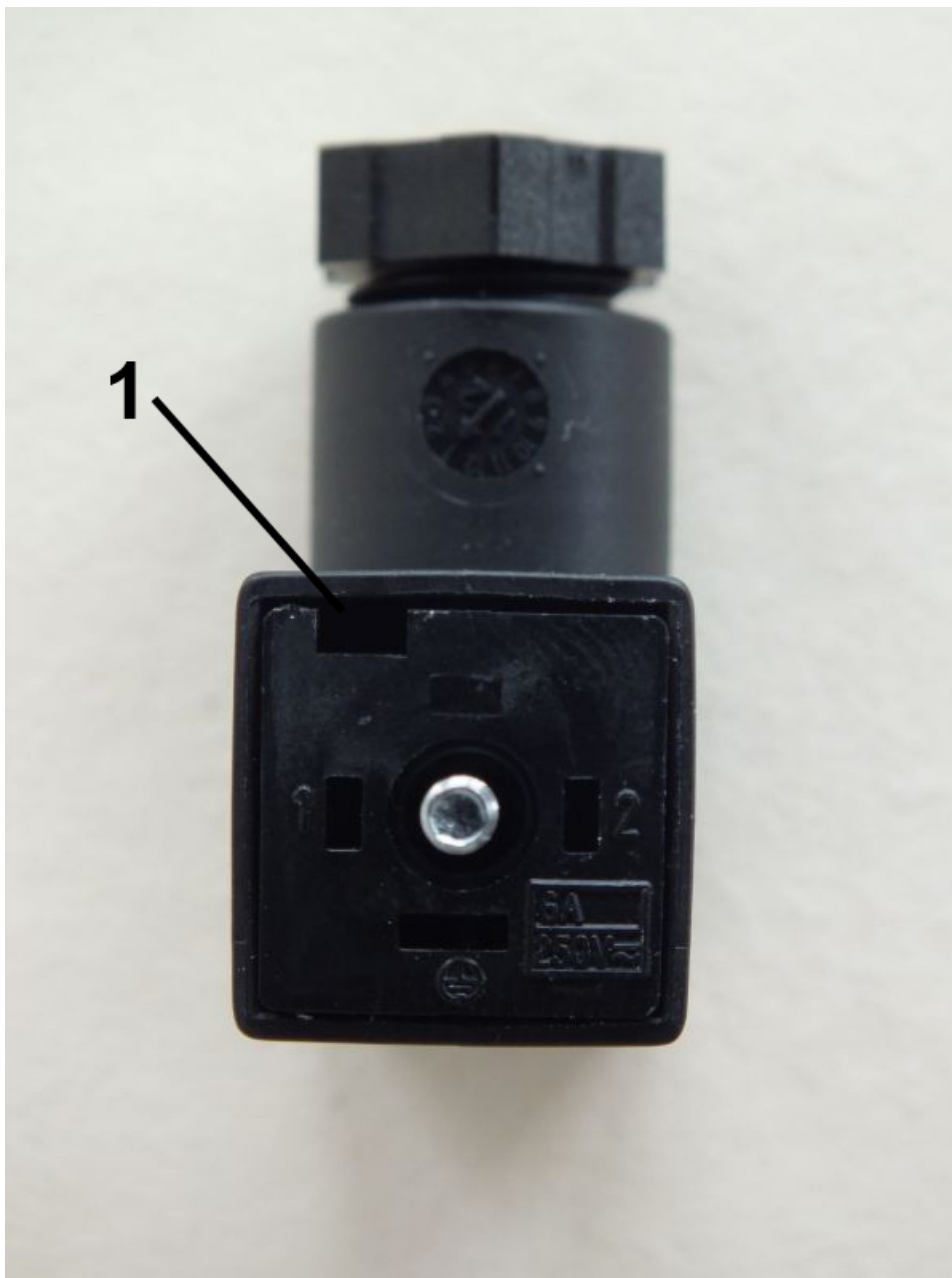

Fig. 23: Loosen inner section
- 3.** ➤ Remove the inner section from the socket by inserting a flat-bladed screwdriver into the slot (*Fig. 23/1*) and carefully pry out the inner section.
- 7.** ➤ Place the inner section (*Fig. 23*) back into the socket and push until it locks on